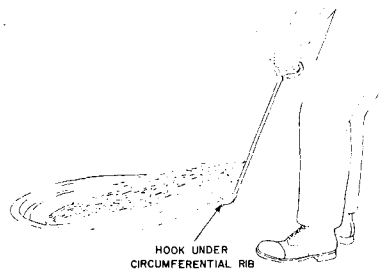

Fig. 10—Unseating the Cover
- (2) The cover should then be unseated approximately 4 inches as shown in Fig. 10.